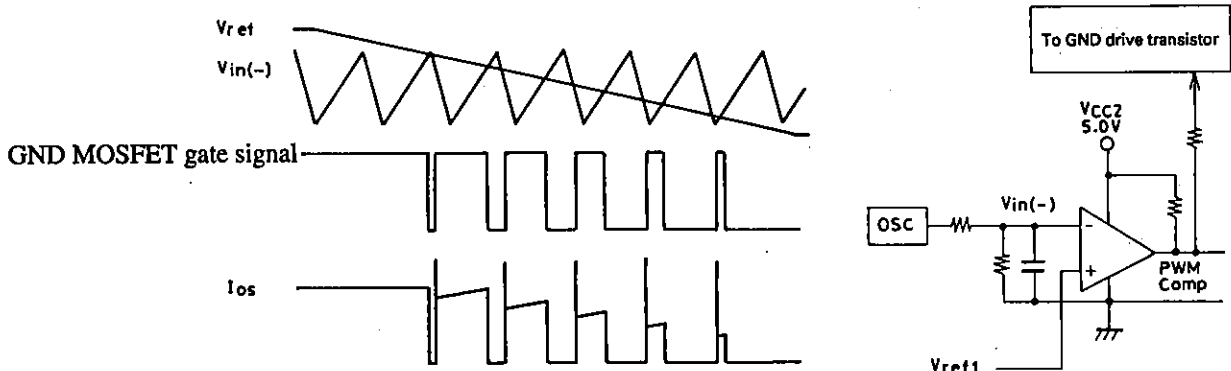

Fig.1 PWM Drive Principle
For revolution speed control, the  $V_{ref1}$  pin voltage is converted and used for PWM drive to increase GND transistor efficiency, controlling the conduction of motor current  $I_o$  (Fig. 1). Control of  $I_o$  means control of power supplied to the motor, which controls motor rpm. In general motor rpm N is proportional to the PWM on duty (when motor load is constant). The PWM on duty is proportional to the size of  $V_{ref1}$  (see Fig. 13), and the relation of N is as outlined below.